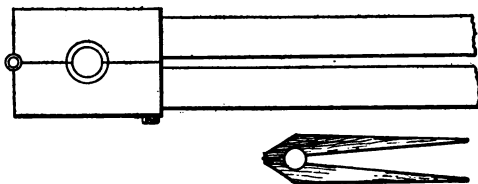

Fig. 76. Lapping Fixture of Simple Construction for Crankshaft Pins
**Crankshaft Lapping.** The pins of a crankshaft need lapping the same as other pins where a grinding machine is not available. There are two ways of doing this: by hand, which is slower but more simple so far as apparatus is concerned; and by machine, which requires special fittings for this purpose. In the sketch, Fig. 76, a form of hand lapper is shown. This consists of a pair of hinged members, with a central hole large enough to take various sizes of bushings, such as would be required on different shafts. A long handle is provided; also a bolt to hold the two halves together when the bushing has been inserted.